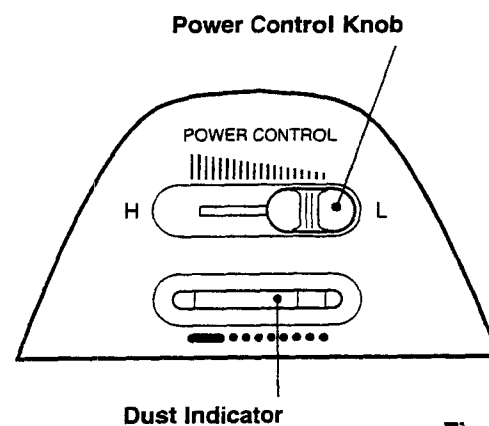

Fig. 7
- 2 To turn off the vacuum cleaner, touch the switch to the "OFF" position. (Fig. 7)
A slide switch allows selection of any cleaning power from low "L" to high "H". To increase the suction power, slide the switch toward the "H" position. To decrease the suction power, slide the switch toward the the "L" position. (Fig. 7)